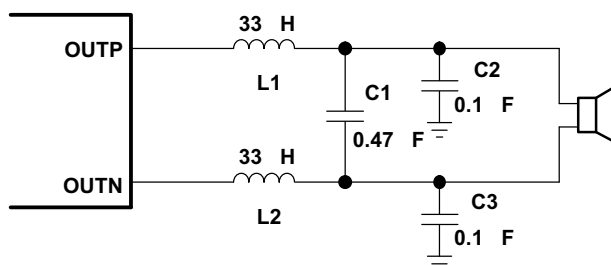
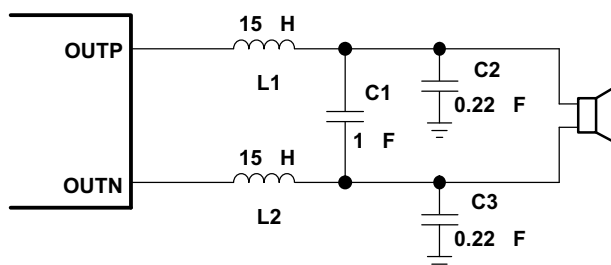

Figure 27. Typical LC Output Filter, Cutoff Frequency of 27 kHz, Speaker Impedance = 8  $\Omega$
Figure 28. Typical LC Output Filter, Cutoff Frequency of 27 kHz, Speaker Impedance = 4  $\Omega$
Using the LC filter in Figure 27, the TPA3101D2 EMI EVM passed the FCC Part 15 Class B radiated emissions with 21 inch speaker wires. Quasi-peak measurements were taken for 4 configurations, and the TPA3101D2 EMI EVM passed with at least a 5.6-dB margin. A plot of the peak measurement for the horizontal rear configuration is shown in Figure 30.
- **Output filter**—The ferrite EMI filter (Figure 29) should be placed as close to the output terminals as possible for the best EMI performance. The LC filter (Figure 27 and Figure 28) should be placed close to the outputs. The capacitors used in both the ferrite and LC filters should be grounded to power ground. If both filters are used, the LC filter should be placed first, following the outputs.